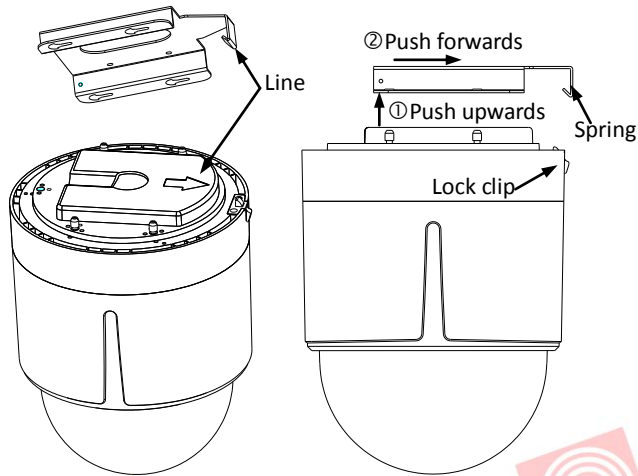

Figure 2-16 Attach the Back Box to the Mounting Base
- 3). Push the speed dome upwards and then forwards in the direction of arrow. When the speed dome is placed in position, the spring will automatically snap into the lock clip firmly. Refer to the Figure 2-16.